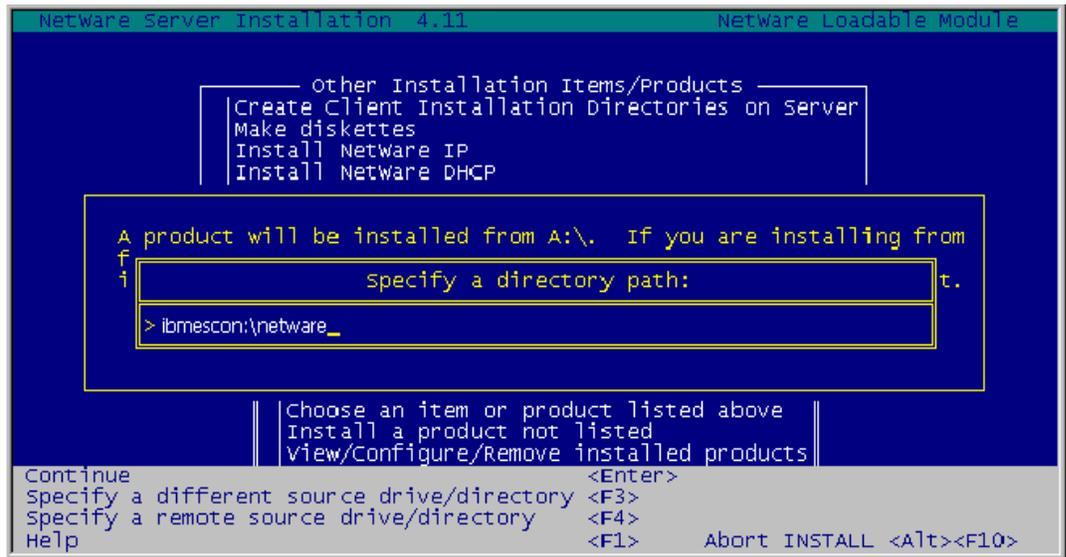

Figure 3-10. Specify a Directory Path
5. A pop-up window appears prompting you for a directory path (Figure 3-10). Enter "ibmescon:\ netware" where "ibmescon" is the volume ID of the installation CD.